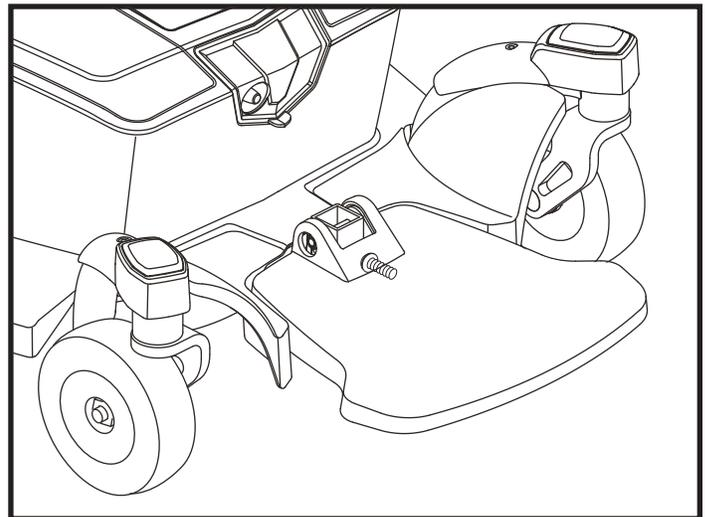

Figure 12. Foot Platform Angle Adjustment
You can adjust the angle of the foot platform. **See figure 12.**
2. Turn the adjustment screw to raise or lower the front of the foot platform. **See figure 12.**